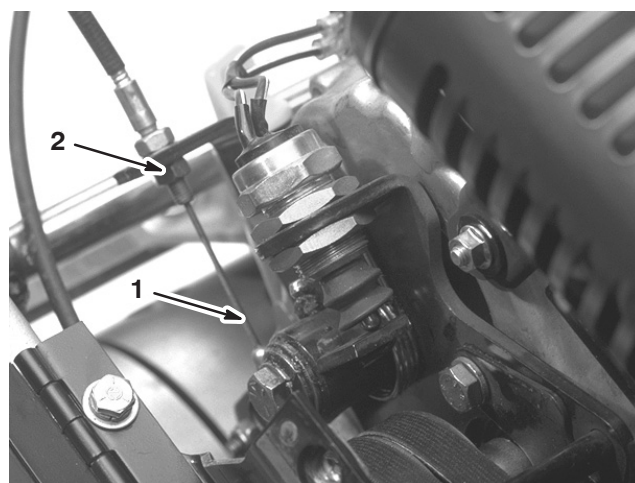

Figure 42
3. To increase the cable tension, loosen the front cable jam nut and tighten the back cable jam nut (Fig. 42) until a force of 3 to 5 lb. (1.5 to 2.3 kg) is required to engage the traction control. Measure the force at the control knob.